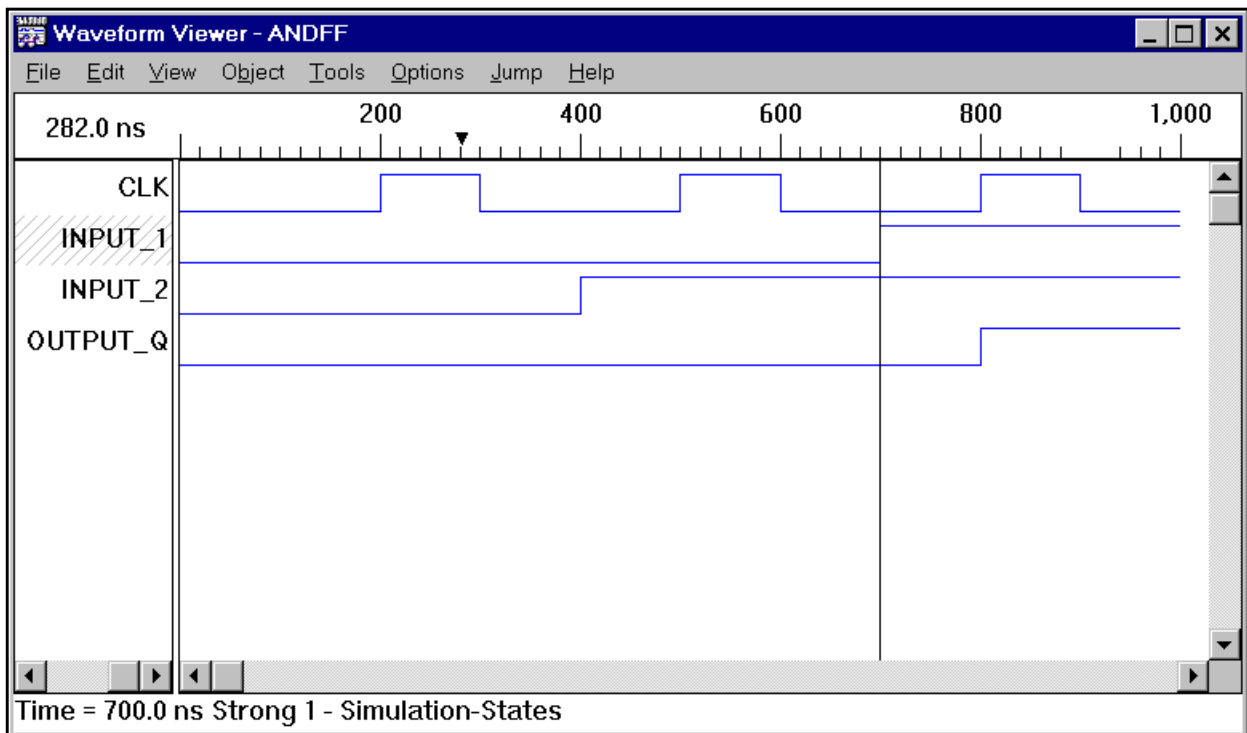

Figure 3-15. Waveform Viewer Window Showing the Signals
6. Select the desired signals in the Nets field, then click the **Show** button to add them in the Waveform Viewer (Figure 3-15).